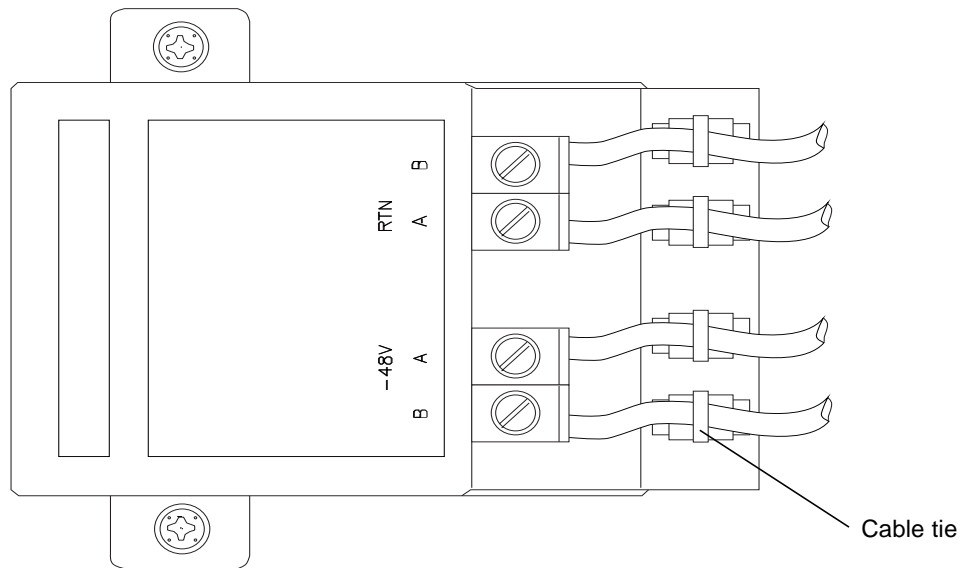

FIGURE 3-8 Power Cable Arrangement for Strain Relief
6. Use cable ties to secure the wires to the swivel loops in the mounting bracket (see FIGURE 3-8).